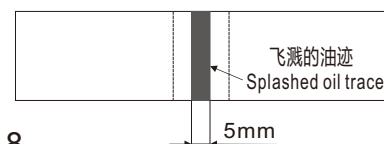

图8 Fig.8
## 6 旋梭油量调节 (图6、图7、图8) Oil mass Adjustment of Rotating Hook (Fig. 6, Fig. 7, Fig. 8)
2) 请在缝纫机转动时将油量确认专用纸插入(具体操作见图8所示)。
2) Insert the special oil mass confirmation paper when the sewing machine is rotating (detailed operations are described in Fig. 8).
1) 右图标样(见图8)根据不同的缝制工序需求进行增或减的微调整, 但应注意不要增加或减少过多。油量过少时会引起旋梭发热, 油量过多时会污染缝料。
1) The guide sample shown in the right-hand figure (see Fig. 8) may be finely adjusted (increased or reduced) as per different sewing processes; however, excessive increase or reduction shall be avoided. Too little oil mass may lead to rotating hook heating, and overmuch oil mass may lead to contamination of the sewing materials.